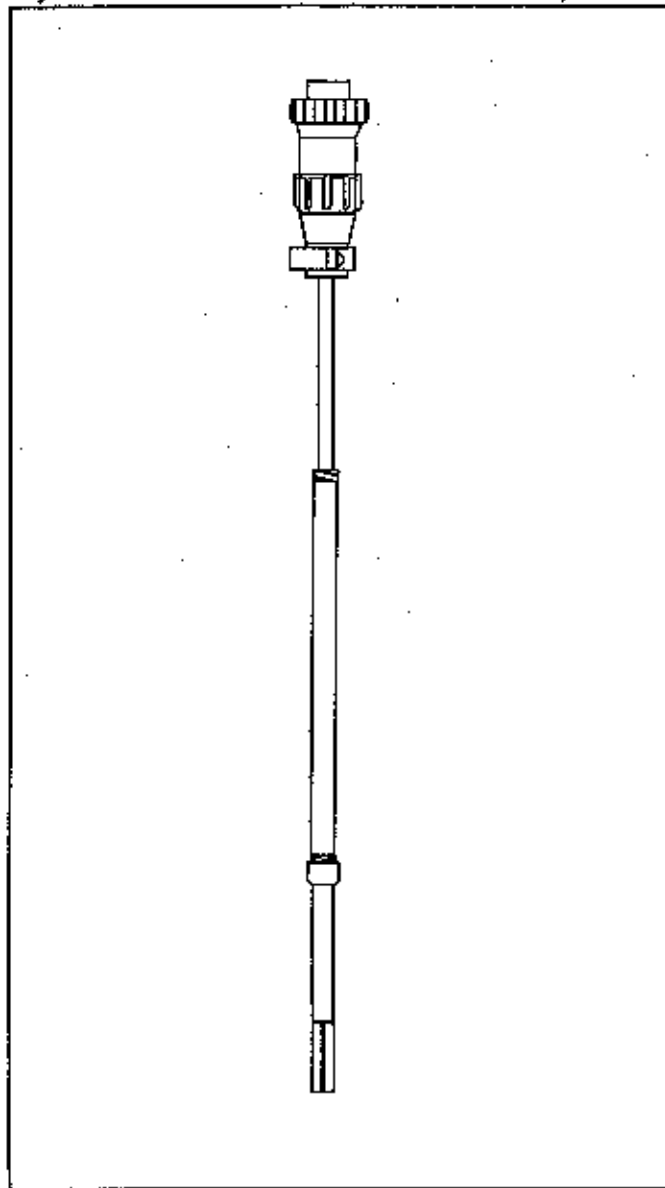

Figure 205
**Mag. Timing Probe (See Figure 205)**